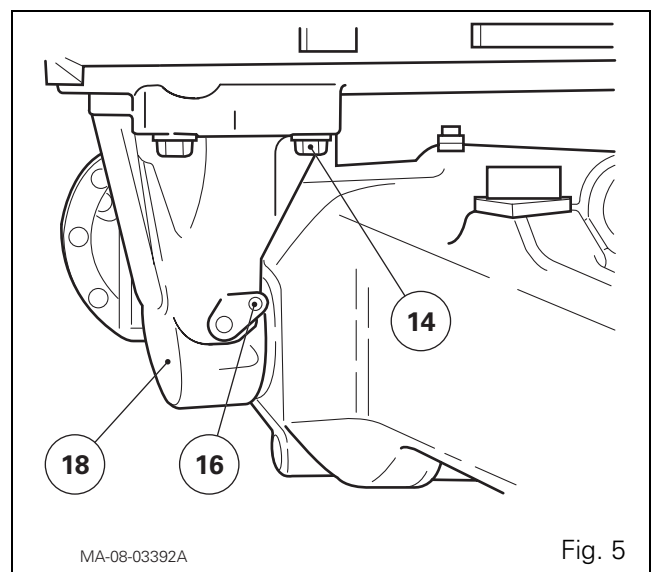

Fig. 5
8. Remove the grease nipple (16) and screws (14) (Fig. 5). Remove the front bearing (18), washers (10) and seal (11).
9. Remove the front axle, washer (12) and seal (13).